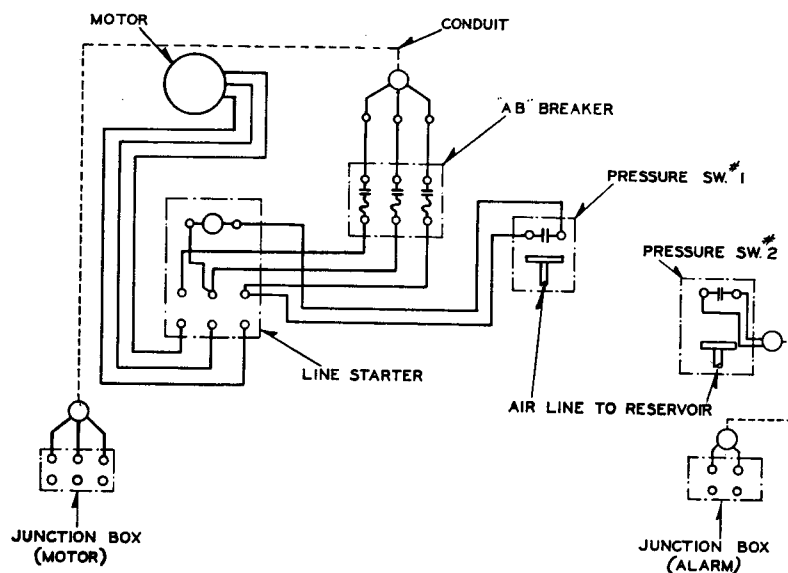
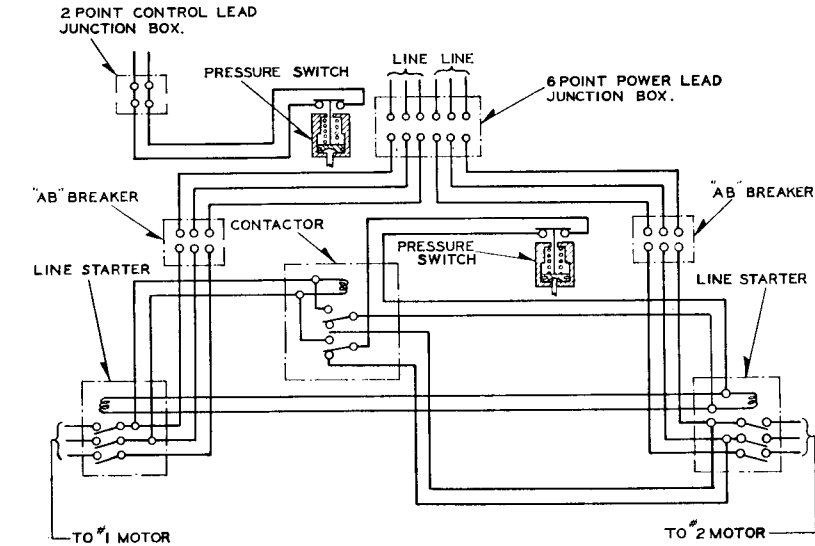

FIG. 6—WIRING DIAGRAM FOR SINGLE COMPRESSOR UNIT
FIG. 7—WIRING DIAGRAM FOR TWIN COMPRESSOR UNIT
- Fig. 6. Wiring Diagram for Single Compressor Unit.
- Fig. 7. Wiring Diagram for Twin Compressor Unit.
**Motor Control**—A schematic arrangement of control for the motor on a single compressor supply unit is shown in Fig. 6, and for a twin compressor unit in Fig. 7. The units are completely wired and tested as shipped from the factory, with motor power leads brought to a junction box ready for connection to the a-c supply. Leads for an alarm circuit, normally d-c, to give warning of undue reduction in storage pressure, are brought to a separate junction box. All wiring is enclosed in conduit or flexible covering.
A Westinghouse, "De-ion," metal-enclosed, non-reversible linestarter is provided for across-the-line starting of motors (see Fig. 6). A Westinghouse, Type AB circuit breaker controls power supply to the motors; closing this breaker is all that is required to start the unit in operation. Thereafter, starting and stopping of the motor is controlled automatically by a pressure governor switch, actuated by reservoir pressure, as long as the AB breaker remains closed.